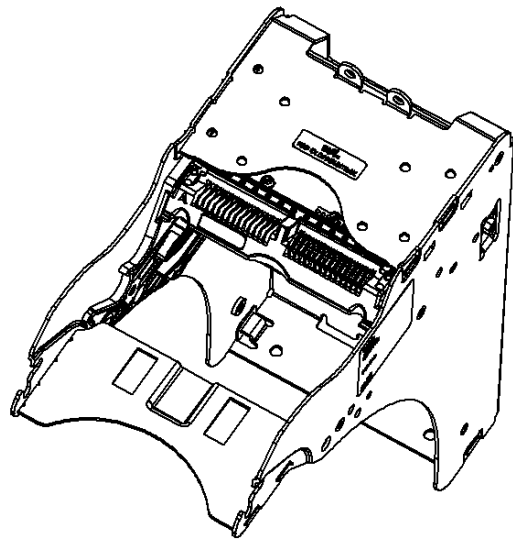

fig.2B
5. Apply the FCC ID label to the top of the chassis. See fig.2B